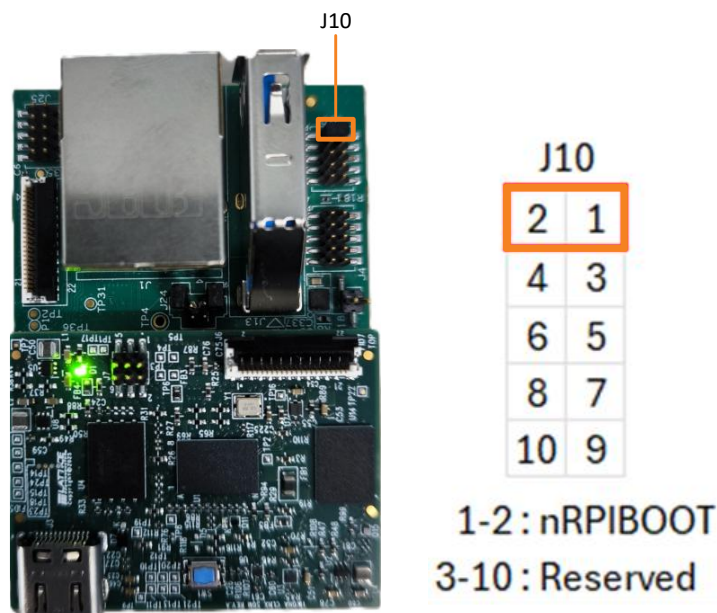

Figure 5.13. Hardware Connection for nRPIBOOT
1. Connect pin header **1 and 2** on **Jumper J10** as shown in Figure 5.13. This shorts the nRPIBOOT and enables flashing of the RPi CM5.